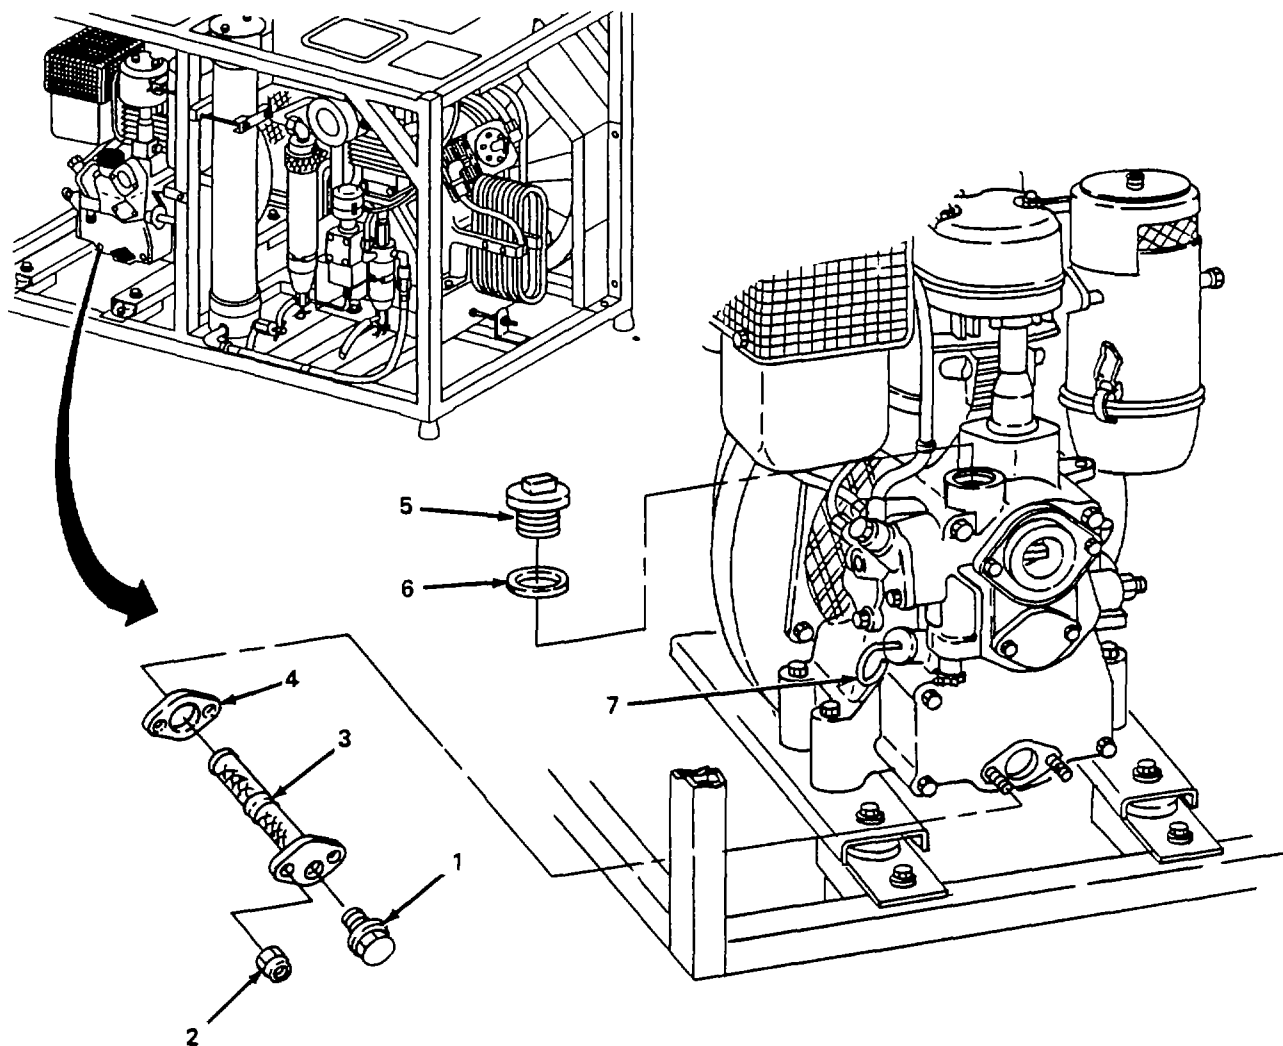

Figure 4-15. Engine Assembly, Service.
a. **Service.** (figure 4-15)
- (1) Remove drain plug (1) and drain engine oil into suitable container.
- (2) Remove two nuts (2), oil screen (3) and gasket (4).